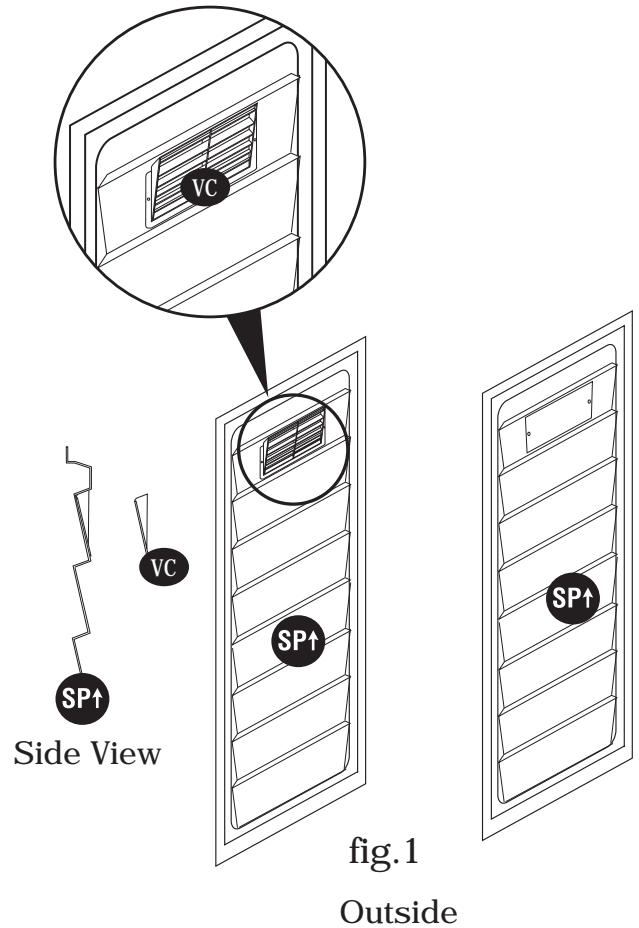

fig.1
1. Place the ventilation cover (VC) as shown in fig.1. Using a pencil, mark the two side hole locations.